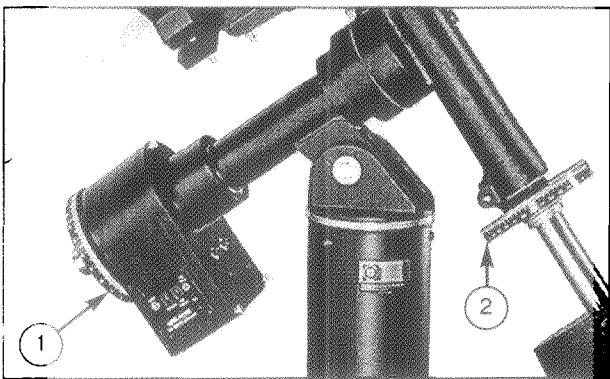

Fig. 13: Setting Circles. (1) R.A. Setting Circle; (2) Declination Setting Circle.
2. Use the hex wrench provided to loosen the Declination setting circle (2), Fig. 13. With your finger, turn the setting circle until the dial reads 89.2° — the Declination of Polaris; then re-tighten the hex screw without moving the circle. The Declination setting circles are now calibrated.
Setting circles included with the 16" Starfinder permit the location of faint celestial objects not easily found by direct visual observation. The R.A. circle (1), Fig. 13, is located at the end of the polar housing, on the side of the Control Panel. The Declination (Dec) circle (2), Fig. 13, is located at the end of the Declination Housing, just above the counterweight shaft. With the telescope pointed at the North Celestial Pole, the Dec circle should read 90° (understood to mean $\pm 90^\circ$). Objects located below the 0-0 line of the Dec circle carry minus Declination coordinates. Each division of the Dec circle represents a 1° increment. The R.A. circle runs from 0hr to (but not including) 24hr, and reads in increments of 5min.